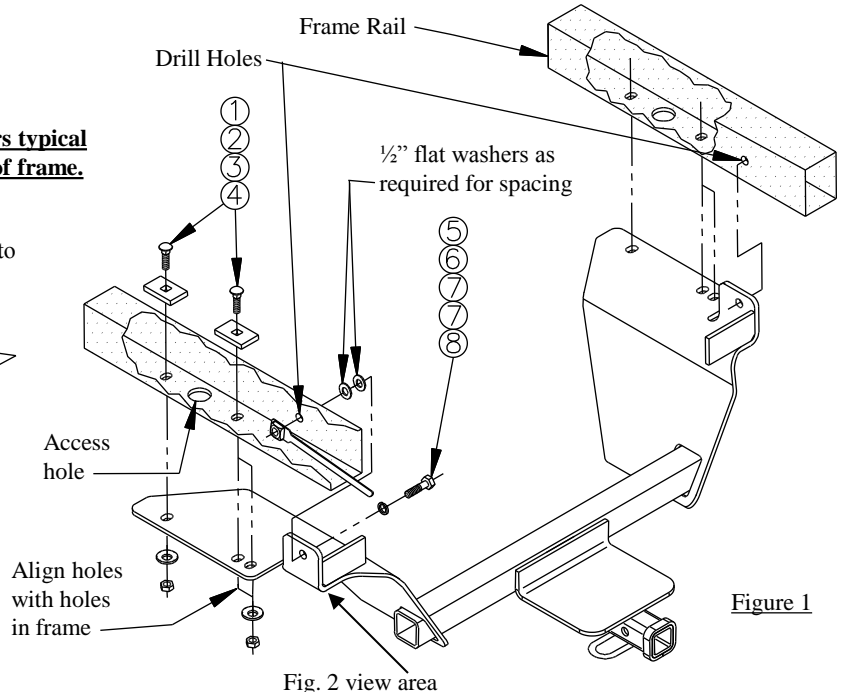

Figure 1
①	Qty. (4)	1/2-13 X 1-1/4" Gr.5 Carriage bolt	⑤	Qty. (2)	1/2"-13 X 1-1/4" Gr.5 Hex bolt
②	Qty. (4)	1/4" X 1-1/2" X 2" Block	⑥	Qty. (2)	1/2" Lock washer
③	Qty. (4)	Conical toothed washer	⑦	Qty. (4)	1/2" Flat washers
④	Qty. (4)	1/2" Hex nut	⑧	Qty. (2)	Handle nut assy.
1. Detach (5) rubber exhaust hangers and lower rearward portion of exhaust system.
2. Insert carriage bolts and blocks in frame rails thru access holes shown in Fig. 1.
4. Raise hitch into position and attach with carriage bolts as shown in Figure 1. Use hitch mounting holes that align with holes in vehicle frame.